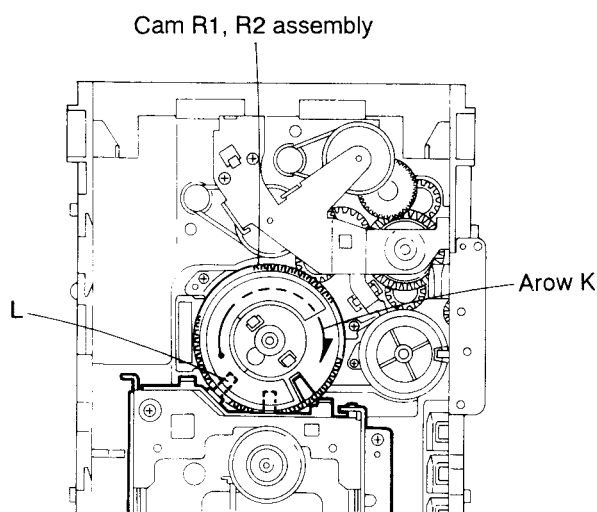

Fig. 5-40
## ■ Removing the CD mechanism (See Figs. 5-40 and 5-41)
1. For dismantling only the CD mechanism without removing the CD mechanism assembly, align the shaft (L) of the CD mechanism assembly to the position shown in Fig. 5-40 while turning the cam R1 and R2 assembly in the arrow direction (K).